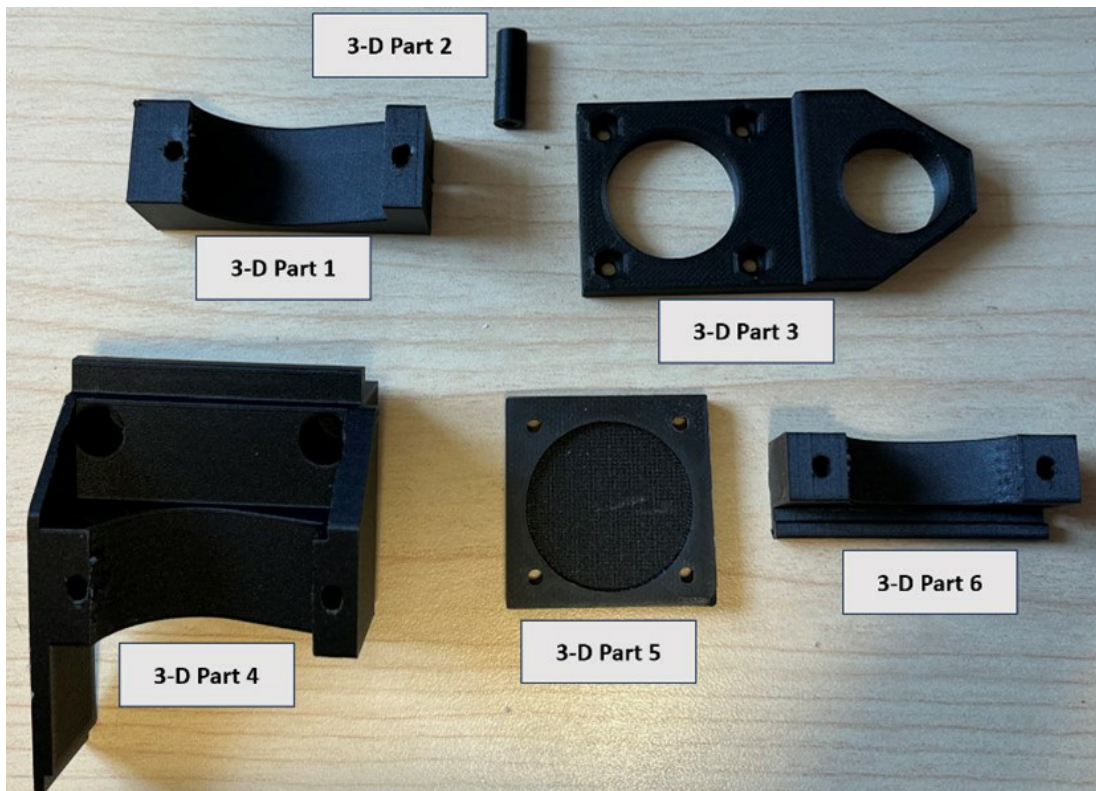
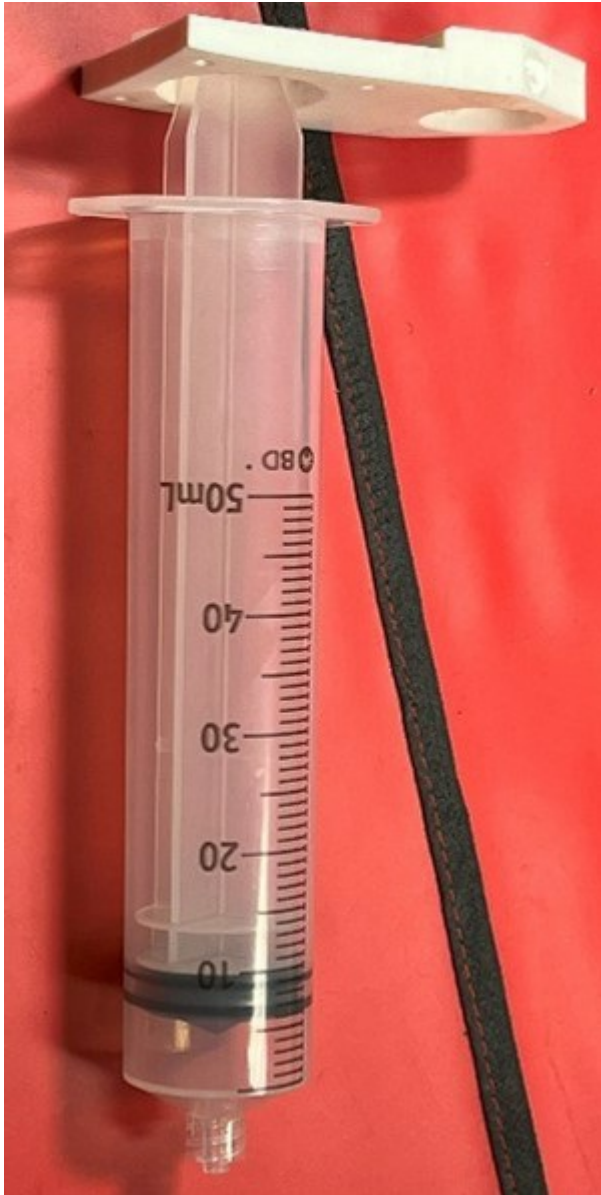

Figure 10. 3-D printed parts for the syringe installation on the actuator
Figure 11. Syringe plunger with 3-D printed part 3 attached.
- 14.2** Slide 3-D print part #3 (Figures 10, 11) onto the plunger with the ledge facing towards the plunger flange.
- 14.4** Attach 3-D printed part #5 (Figure 10) onto the plunger flange (Figures 11, 12). Ensure the circular flange fits into part #5.